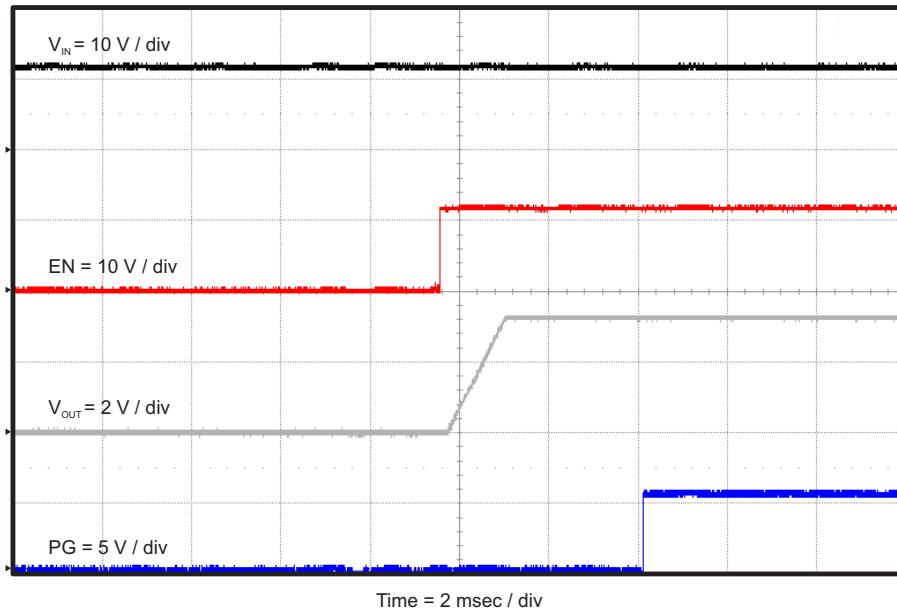

Figure 12. TPS65581EVM-575 CH1 Start-Up Relative to EN
The TPS65581EVM-575 start-up waveform for CH1 relative to enable (EN) is shown in Figure 12. Load = 4Ω resistive. The start up waveforms for CH2 and CH3 are similar and not shown.